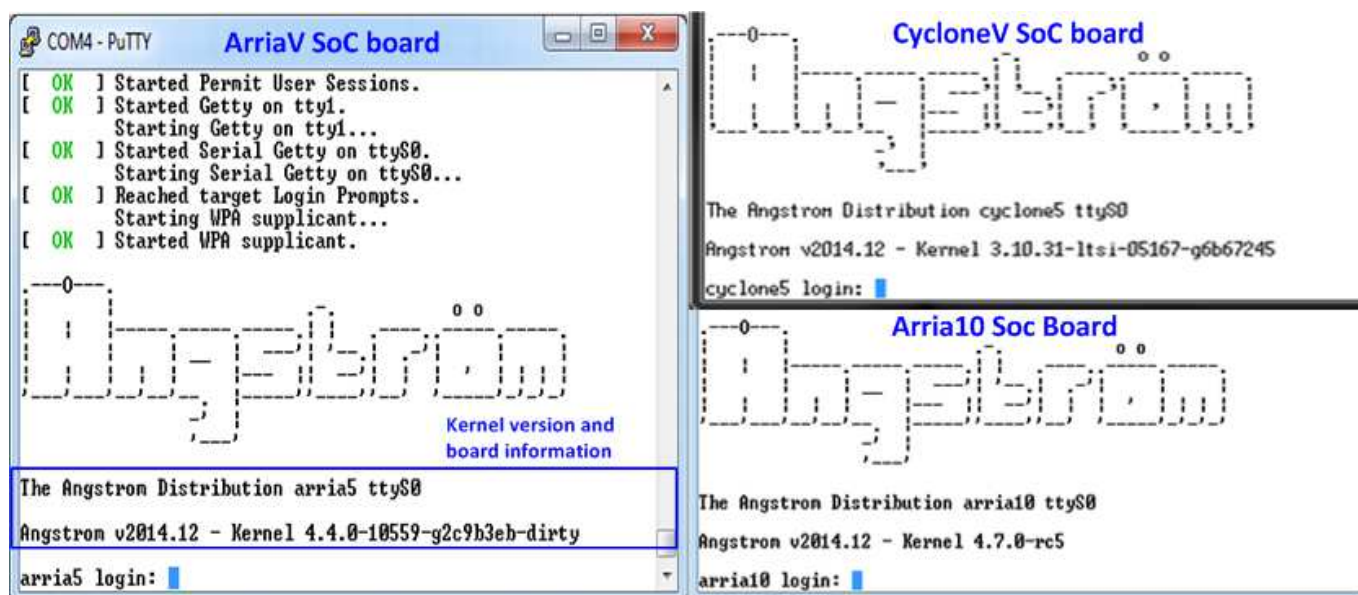

Figure 2-6 Linux Bootup
- On PC serial console, please wait Linux boot-up until login required, as shown in Figure 2-6.